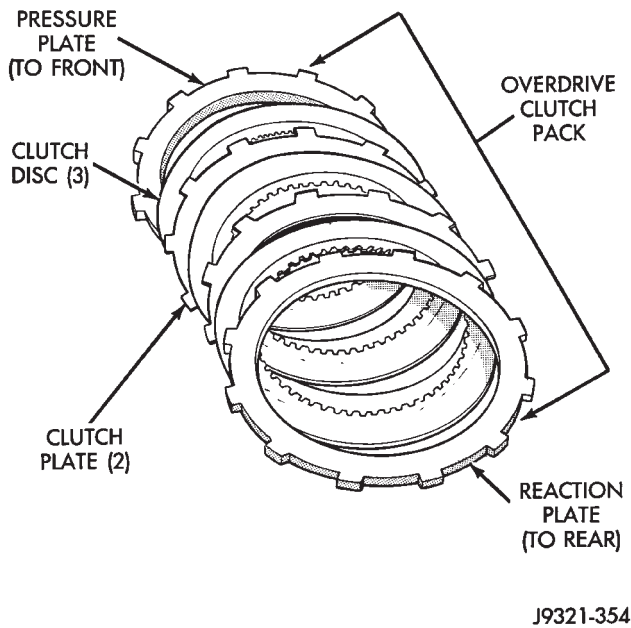

Fig. 199 42RE Overdrive Clutch Component Position
(3) Note position of clutch pack components for assembly reference (Fig. 199).